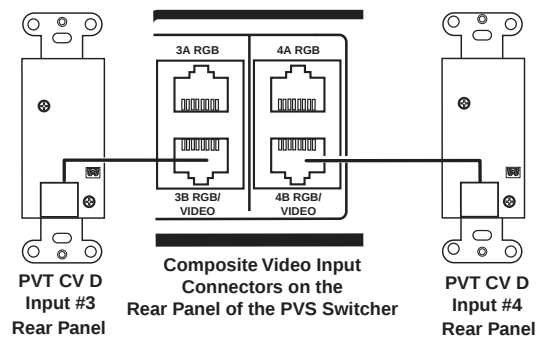

Figure 13. Connecting the PVT CV D to the PoleVault switcher
- ③ **Composite video input (CV D and CV AAP models)** — To input a composite video signal from a suitable source, insert a male RCA plug into this yellow female RCA jack.
- ④ **Audio input (RGB D and RGB AAP models)** — Plug a 3.5 mm stereo audio plug into this jack for unbalanced audio input. Wire the plug as shown in figure 13.
- ⑤ **RGB video input (RGB D and RGB AAP models)** — Connect a computer video source to this 15-pin HD connector for high resolution RGB video input.
- ⑥ **Local monitor output (RGB D Plus model)** — Connect a monitor to this 15-pin HD to view the output locally.
- ⑦ **IR pass-through (All models except PVT CV AAP)** — Connect to this 2-pole IR pass-through connector to provide control via IR devices
- ⑧ **Audio pass-through (RGB D Plus model)** — Plug a local audio device into this 3.5 mm stereo jack for audio pass-through. Wire the plug as shown in figure 13.